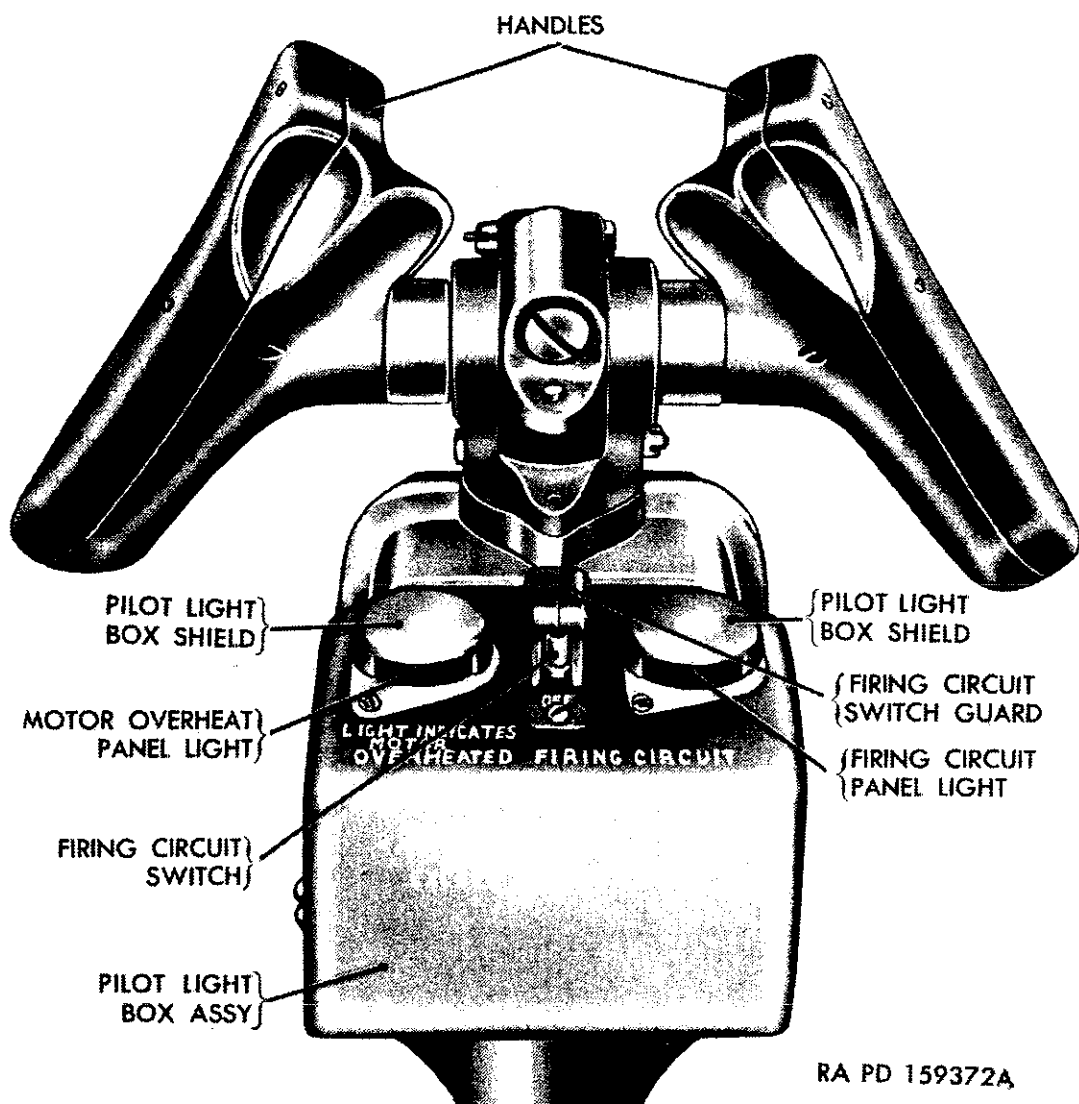
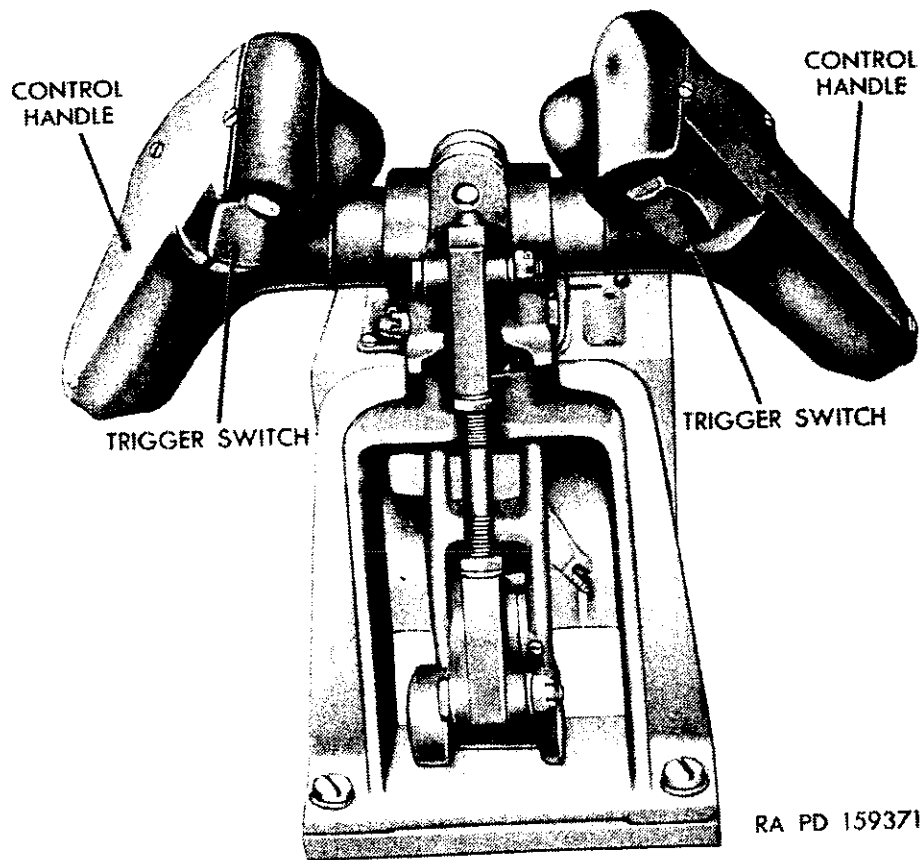

Figure 17. Pilot light box and related parts—front view.
Figure 18. Pilot light box and related parts—rear view.
- (1) *Control handles.* The control handles (fig. 17) are shaped to fit the hands and are located on the pilot light box assembly directly in front of the seat (fig. 15). Their purpose is to control elevation, azimuth, slewing speeds, and firing by means of trigger switches (fig. 18).
- (3) *Trigger switches.* There are two trigger switches (fig. 18). One switch is located in each control handle and their wires are based in the pilot light box assembly. By pressure on these switches by the gunner's index fingers, the firing circuit is energized and the guns fire.
- (4) *Firing circuit switch.*
- a) The firing circuit switch (fig. 17) is located in the pilot light box assembly and controls the firing circuit.
- (c) The red plastic firing circuit switch guard (fig. 17) covers the firing circuit switch. This guard must be closed at all times, except during action or drill, to prevent the firing circuit switch from being accidentally engaged.
- b. Open the red plastic firing circuit switch guard (fig. 17), and then set the firing circuit switch of the pilot light box assembly to **FIRE** position.
- c. The firing circuit panel light (fig. 17) is located on the right side of the firing circuit switch. It is shielded by the pilot light box shield. When the firing circuit switch is set to **ON** position, the firing circuit panel light lights, indicating that the circuit is alive.
- d. The motor overheat panel light (fig. 17) is located on the left side of the firing circuit switch. It is shielded by the pilot light box shield. A wire from this light runs to the thermostat, which is mounted on the case of the power drive motor. When the motor overheats between 190° and 210° F, the thermostat contacts close, completing the circuit between the thermostat and the motor overheat panel light. Except in emergency, the motor should be stopped when the motor overheat panel light lights. The high temperature of the motor will cause damage to the insulation.
- e. Elevate and traverse as described in (1) through (5) below.
- (5) Variations of tracking speed in elevation and traverse are determined by the distance the handles are horizontally or vertically swung from their neutral position.
f. Turn firing switch to OFF position and set red plastic firing switch guard (fig. 17) in position.
**Caution:** Since the late model mount firing circuit switch operates independently of the toggle switch of the switch box assembly, the guns can be fired without the power drive motor operating. Make sure that the firing circuit switch (fig. 17) is on OFF position, except during action.
- (1) Place mount in operation (par. 15).
- (2) Fully load guns.
- (3) Using thumbs, depress trigger switches (fig. 18).
- (4) Gunners will observe guns at all times, and if a stoppage occurs in a gun, will apply action prescribed in paragraph 13.
- (5) Cannoneers unload and load ammunition chests as required.